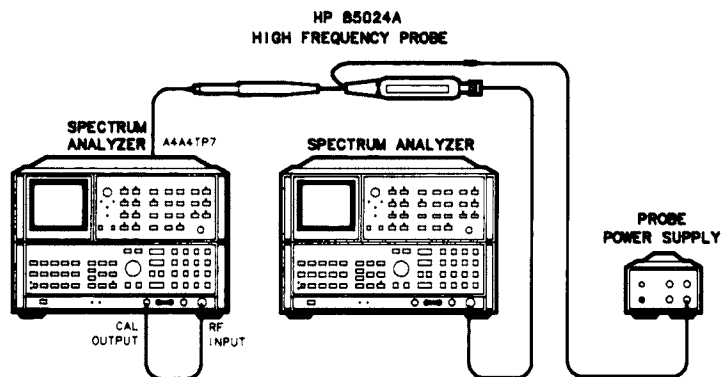

Figure 3-50. Down/Up Converter Adjustments Setup
1. Position the spectrum analyzer upright as shown in Figure 3-50 and remove the IF-Display Section top cover.
8. Connect the active probe to the probe power supply and the RF INPUT of the second spectrum analyzer, as shown in Figure 3-50. On the second spectrum analyzer, key in **(2-22 GHz)**,